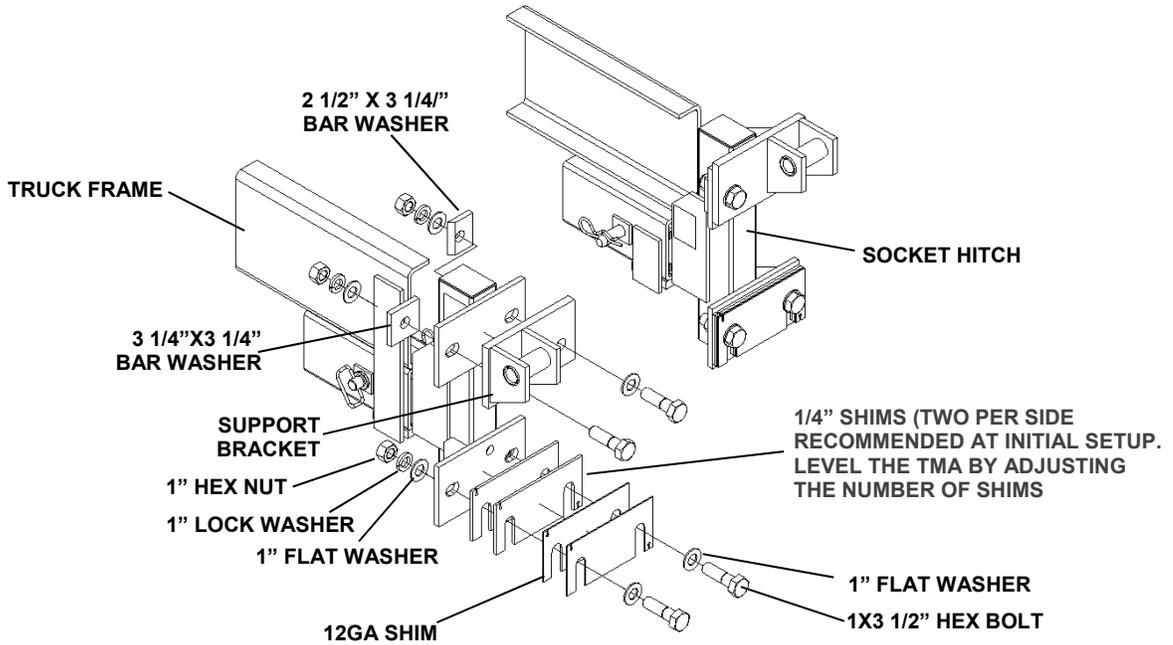

Figure 12
Mount the Support Brackets to the Socket Hitches as shown in Figure 12. Shims are used to level the system. It is recommended that two (2) 1/4" Shims per side be used initially. This may be adjusted once the system is assembled.